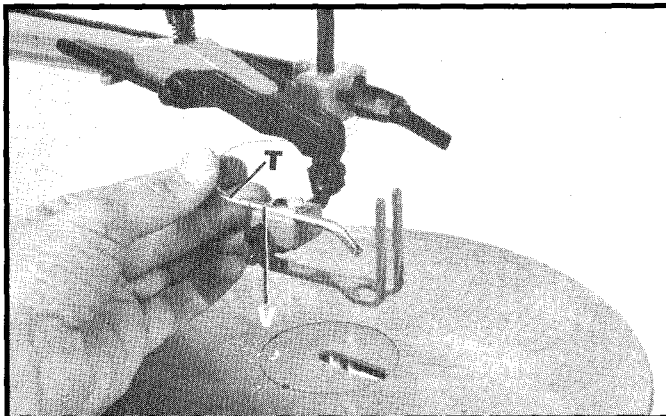

Fig. 11
9. Slide end of chip blower tube (T) Fig. 11, onto end of air nozzle (V), as shown.